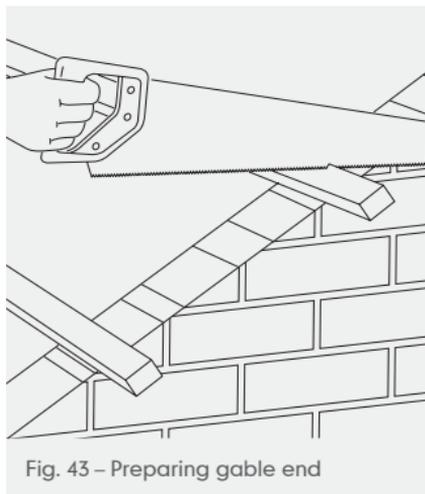

Fig. 43 – Preparing gable end
- 1 Ensure the gable end is reasonably level and free from projections. The roofing underlay and tiling battens should be laid across the cavity/gable ladder and the battens finished flush with the outer wall or outer edge of the bargeboard (Fig. 43). The verge extrusion is fitted prior to tiling.